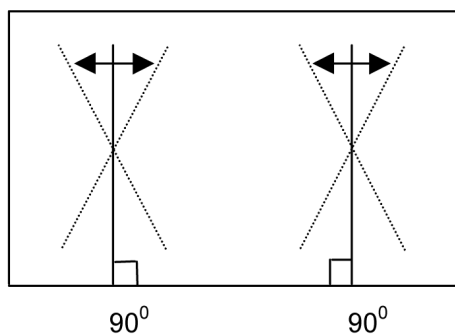

Fig. 4a
3. Adjust the vertical line to straight line of bothside vertical line in Fig 4a by Trapez.